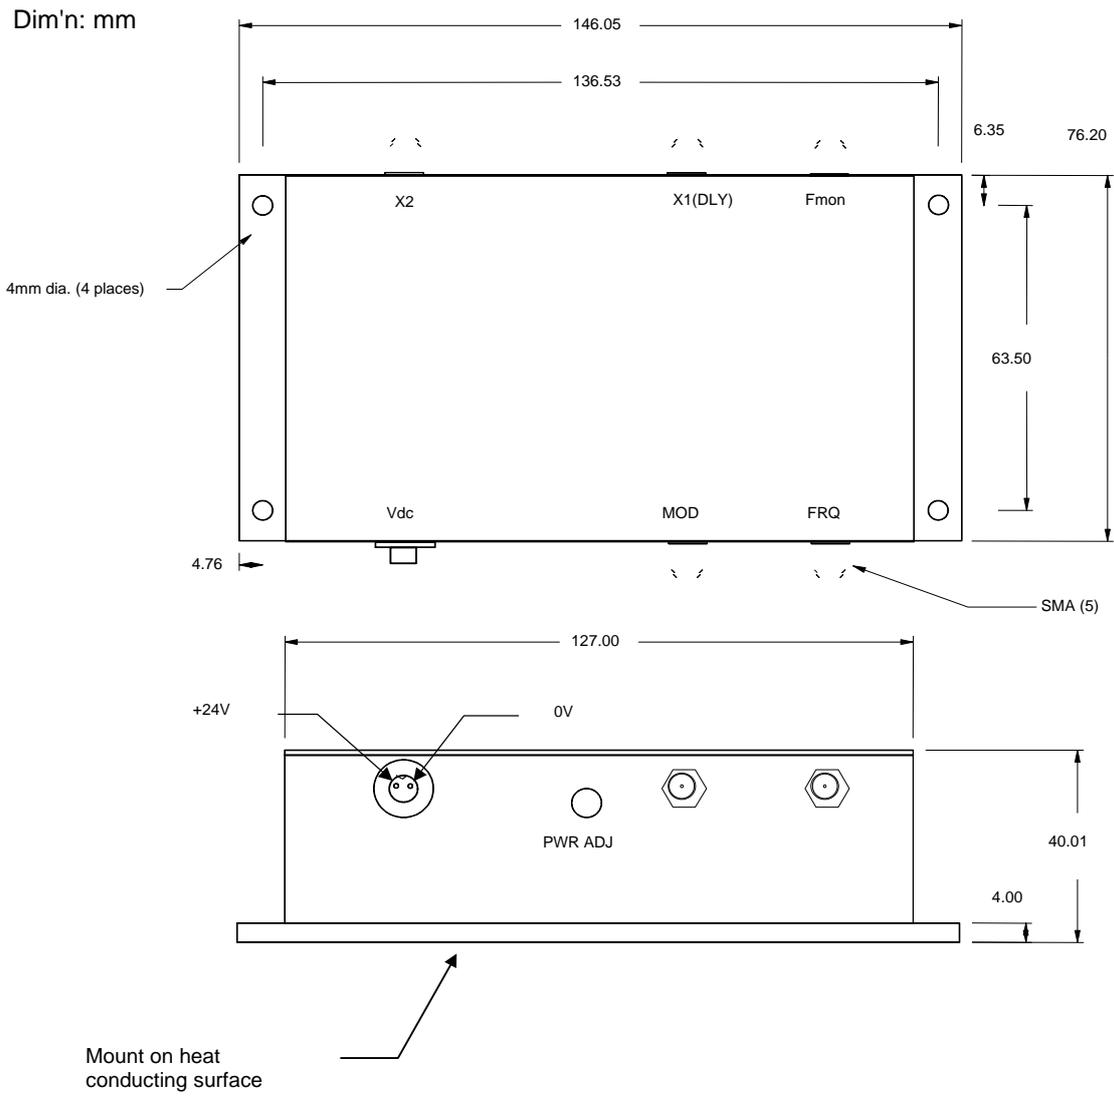

Figure 1, DA134 driver
The DA134-p-xxx Modulator/Deflector Driver, figure 1, is a modular, dual output RF power amplifier specifically designed to operate with Isomet acousto-optic devices such as the LS110A. The driver accepts a frequency input in the order of -6dBm (e.g. from the Isomet iDDS frequency synthesizer) and provides phase delayed RF outputs suitable for beam steered acousto-optic deflectors. The driver also accepts an analogue modulating signal at baseband video frequency and provides a double-sideband amplitude modulated RF output to the acousto-optic deflector. A summary of the DA134 driver specification is shown in the following table:
- a. Install the D134 Driver on a heat sink as shown in Figure 1. Use heat conducting compound between the Driver mounting face and the heat sink.
- b. With no d-c power applied, connect the + 24Vdc line to the 2-pin DC connector as shown in Figure 1. **DO NOT APPLY POWER UNTIL THE LOAD IS CONNECTED.**